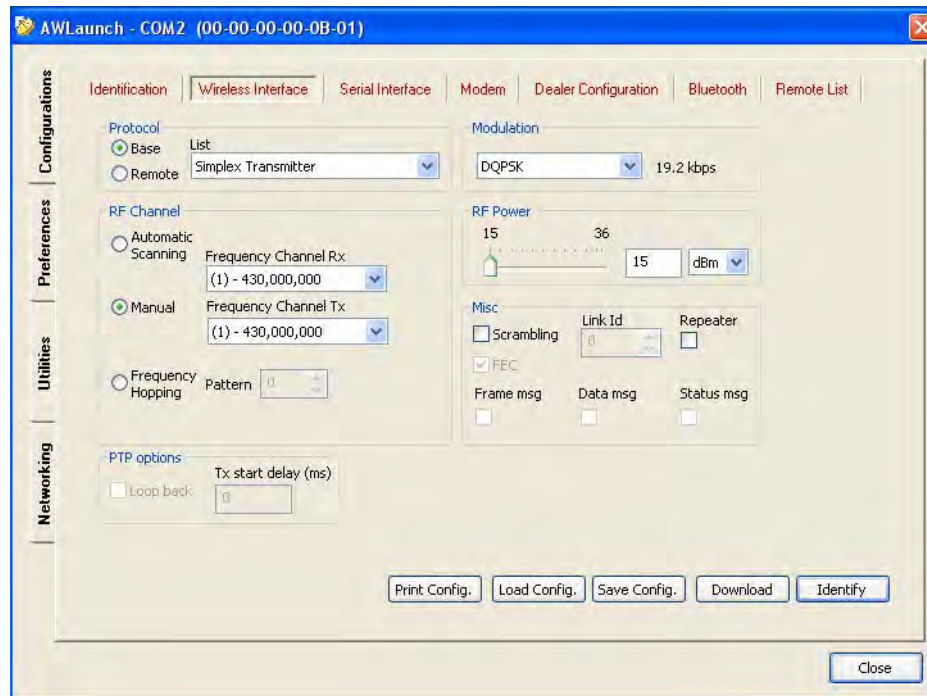

Figure 2-7. Configurations tab. Wireless subtab
- In the *Configurations* tab, *Wireless* subtab, set the following parameters (Table 2-1) and click *Identify* (Figure 2-7 on page 21). To save the changes click *Save Config.* button.